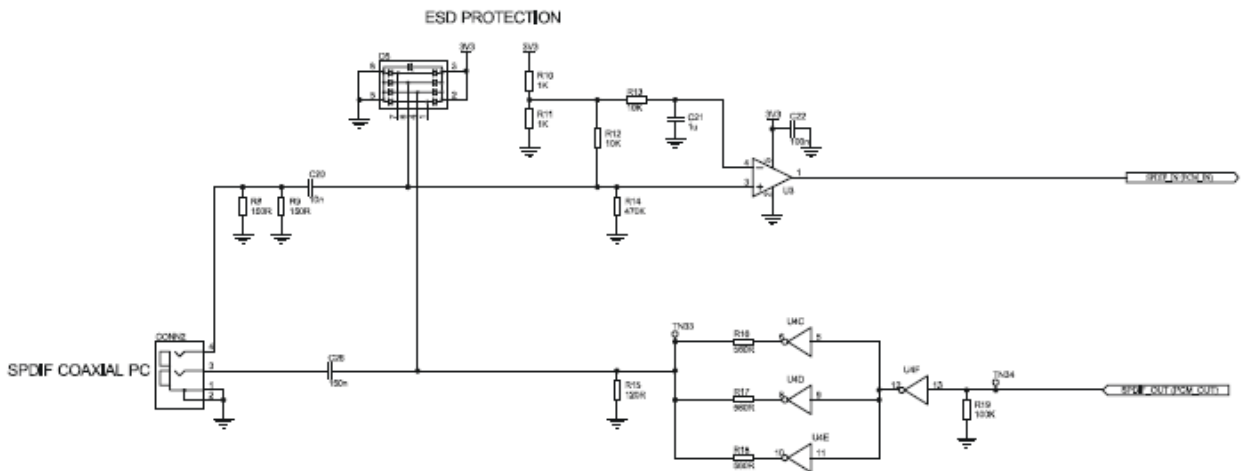

Figure 8: Example Circuit for SPDIF Interface (Co-Axial)
- A 75Ω coaxial cable with an RCA connector, see Figure 8.